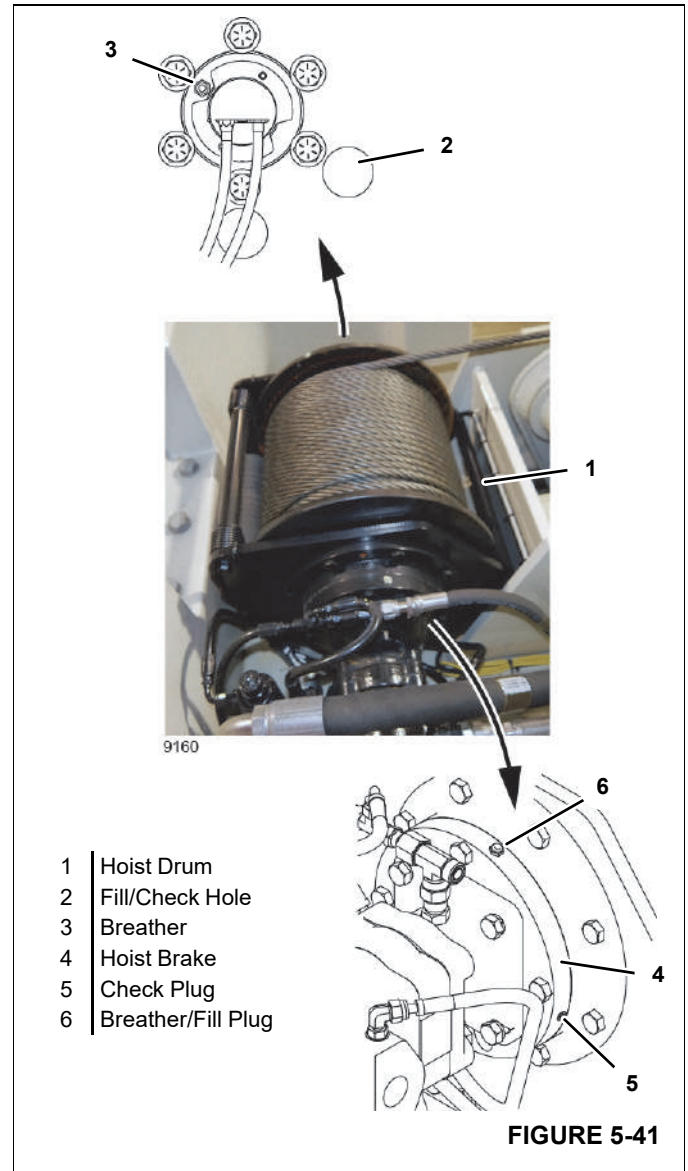

FIGURE 5-41
2. Service the hoist gearbox as follows (see Figure 5-41):
- a. Rotate the hoist drum (1) until the plug is in the fill/check hole in the hoist frame.